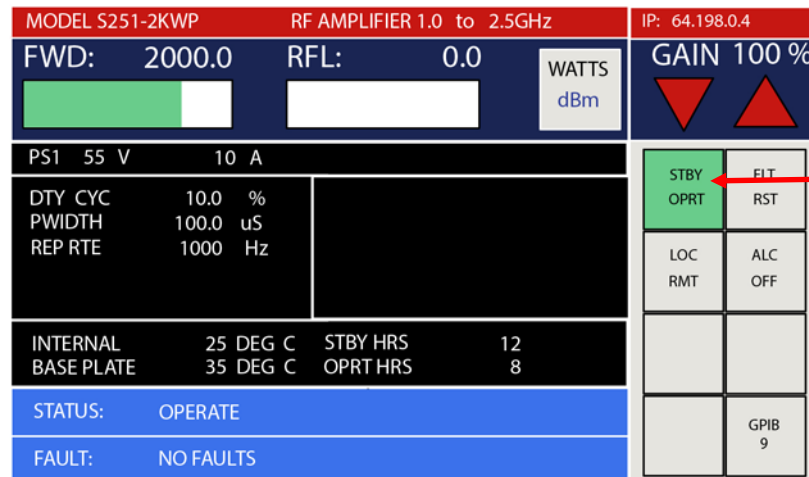

FIGURE 6.0 – TURNING ON THE AMPLIFIER (Typical)
1. From the MAIN MENU in Figure 6.0, press the STBY /OPRT Soft Key and the color of the button will change to Green